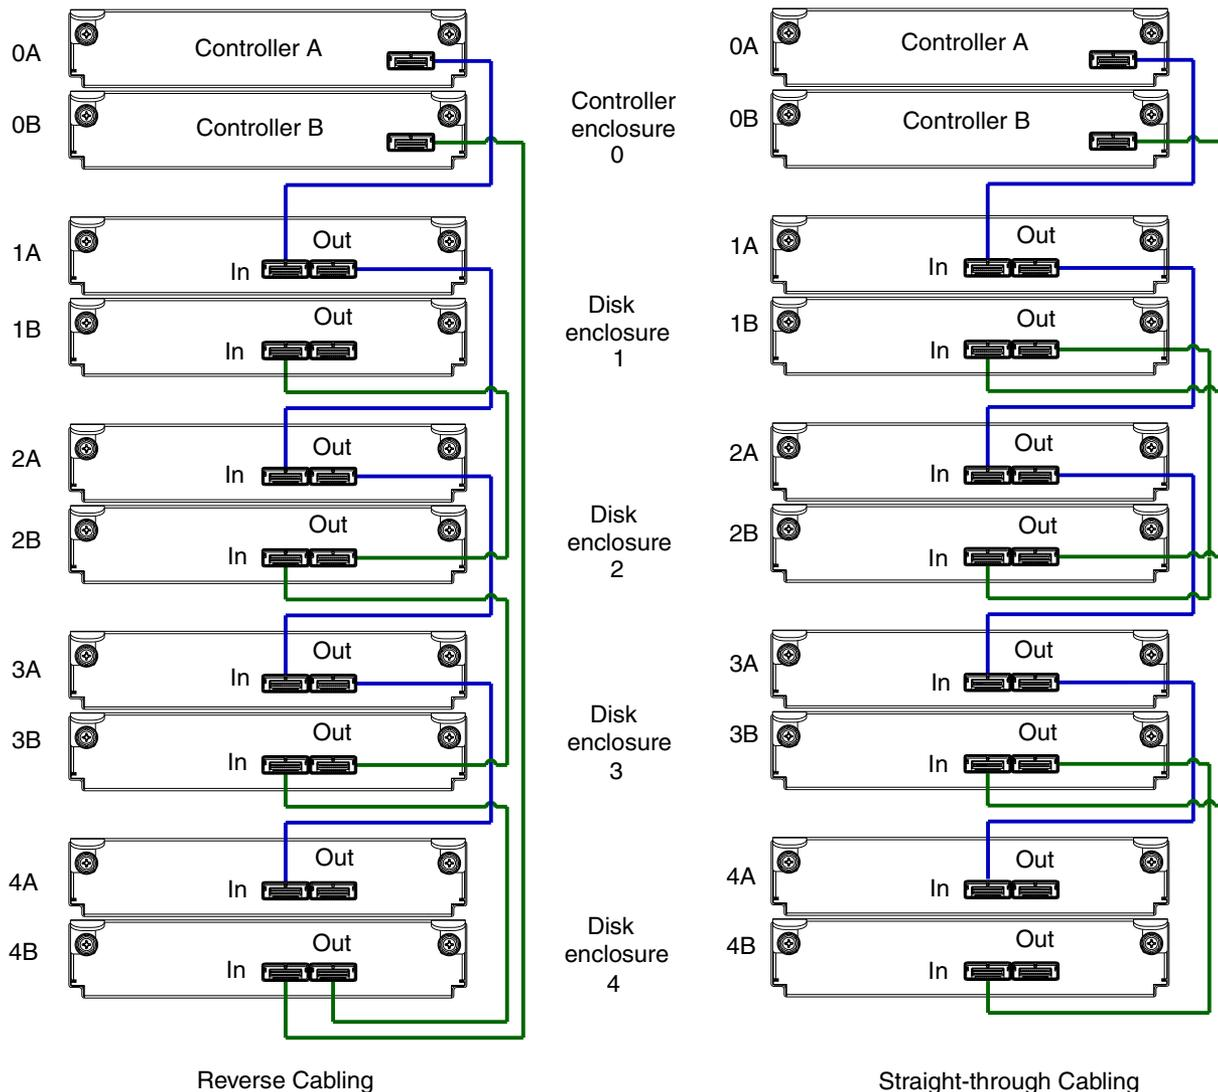

Figure 10 Fault-tolerant cabling between a dual-controller enclosure and four drive enclosures
For example, Figure 10 on page 22 shows reverse cabling wherein controller 0A (i.e., enclosure-ID = 0; controller-ID = Able) is connected to expansion module 1A, with a chain of connections cascading down (blue). Controller 0B is connected to the lower expansion module (B) of the last drive enclosure in the chain, with connections moving in the opposite direction (green). Several cabling examples are provided on the following pages.
The diagram at left in Figure 10 shows reverse cabling of a dual-controller enclosure and 4120/4130 6 Gb drive enclosures configured with dual-expansion modules. Controller module 0A is connected to expansion module 1A, with a chain of connections cascading down (blue). Controller module 0B is connected to the lower expansion module (4B), of the last drive enclosure, with connections moving in the opposite direction (green). Reverse cabling allows any drive enclosure to fail—or be removed—while maintaining access to other enclosures.
The diagram at right in Figure 10 shows the same storage components connected using straight-through cabling. Using this method, if a drive enclosure fails, the enclosures that follow the failed enclosure in the chain are no longer accessible until the failed enclosure is repaired or replaced.